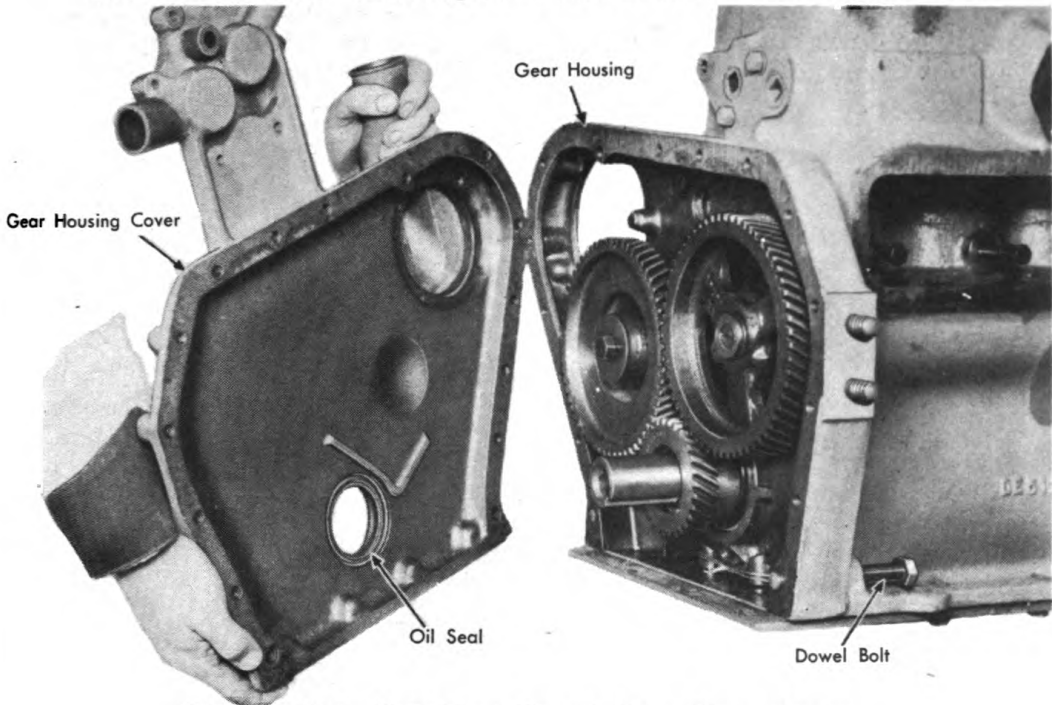

Figure 119. Removing Front Gear Case Cover.
15. Remove the front gear case cover. See Figure 119.